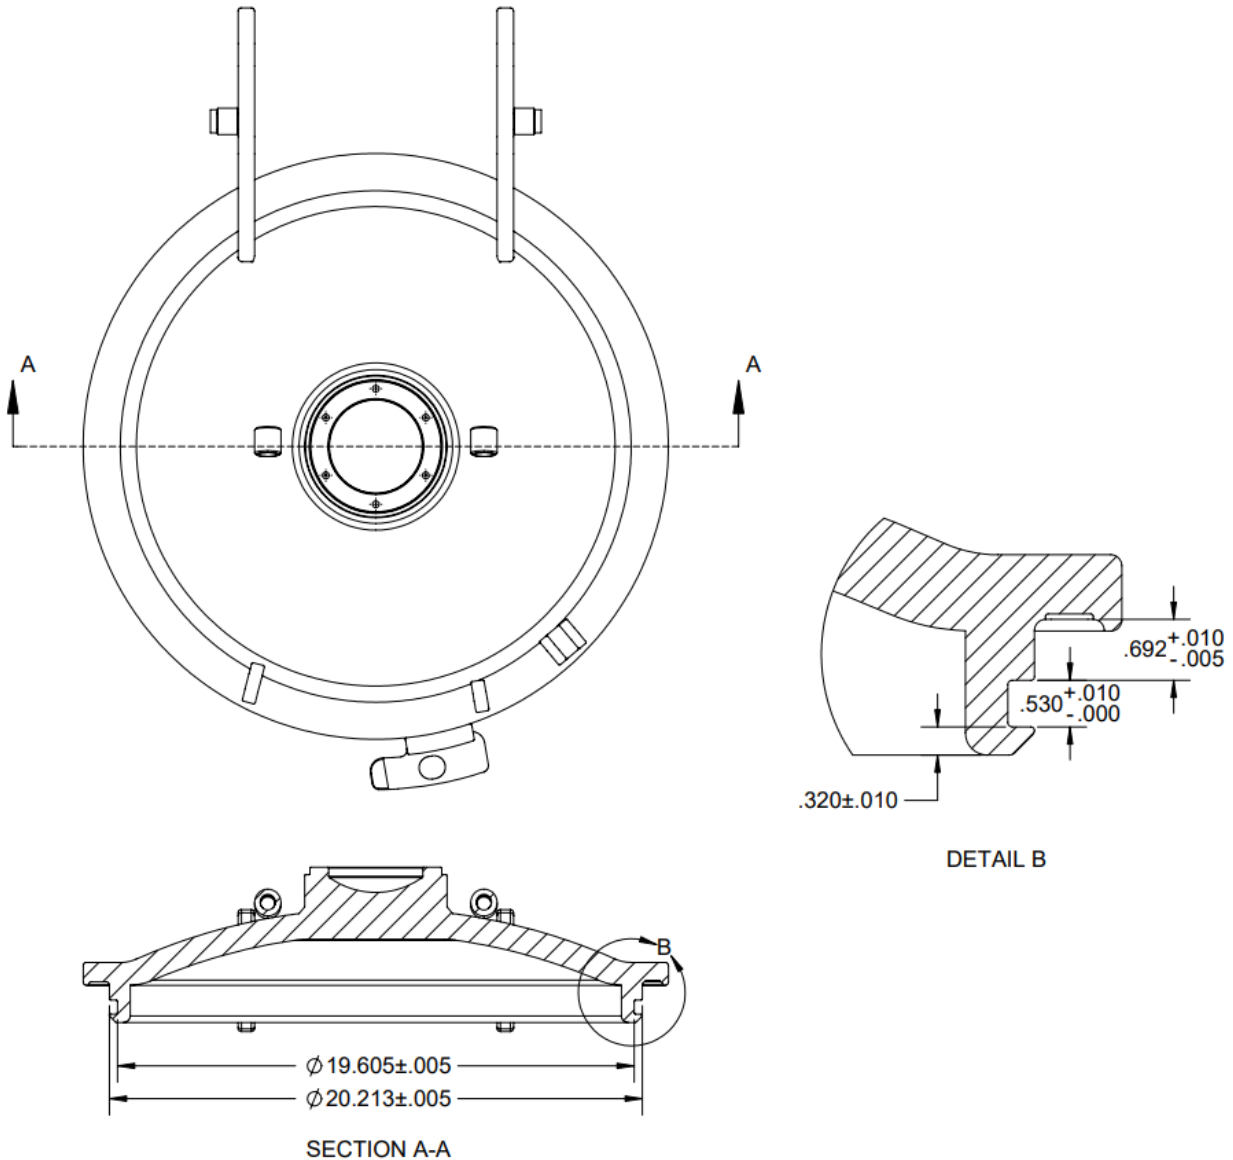

Figure 3- Cover Incoming Inspection Dimensions
- ii. See figure 3 for inspection dimensions.